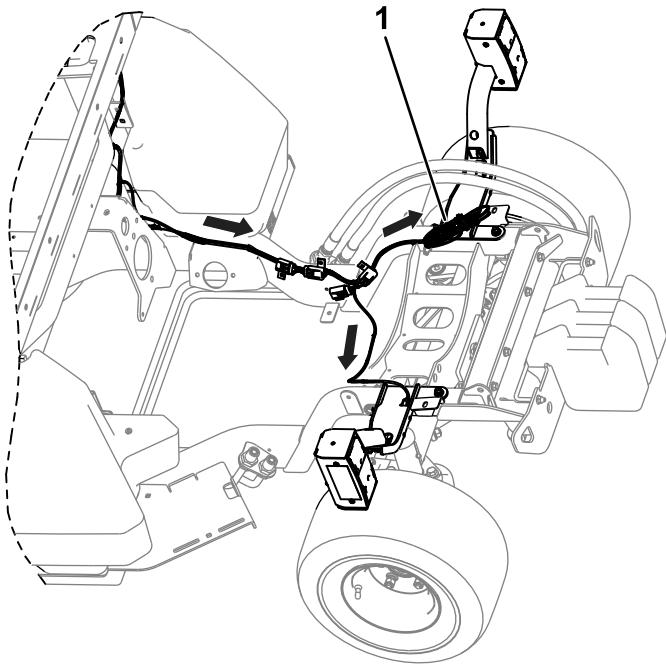

Figure 36
- Use a cable tie coil the remaining connectors (J01 and J02) together (Figure 36).